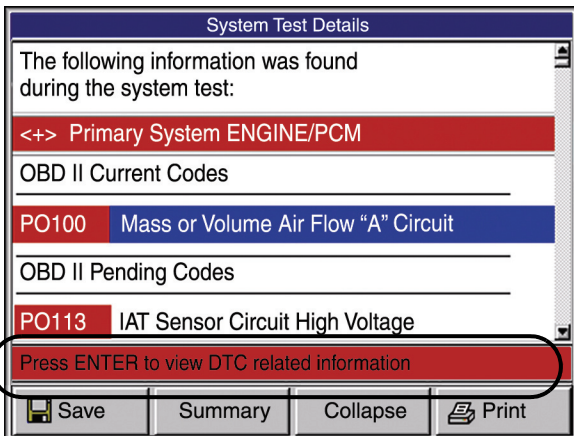

Figure 5.3: System Test Details Screen
With the Automated System Test, System Test Details screen displayed (Figure 5.3), you can select individual lines to view additional information about each test item. The following sections describe the types of test items.
- 1 Follow the steps in the Basic Test Procedure on page 23 to display the System Test Details screen (Figure 5.3).
When you select (highlight) the line for a datastream snapshot (see Figure 5.3 on page 24), if you can view live data readings, the status bar displays the message *Press ENTER to view live datastream*.
When you select (highlight) the line for a freeze frame item (see Figure 5.3 on page 24), if you can view the data, the status bar displays the message *Press ENTER to view Freeze Frame datastream*.
When you select (highlight) the line for a failed Non-Continuous test (Figure 5.3 on page 24), if you can view the component test details, the status bar displays the message *Press ENTER to view component details*.
The System Test Details screen (Figure 5.3 on page 24) may include oxygen sensor test results.
The System Test Details screen (Figure 5.3 on page 24) may include readiness test results.